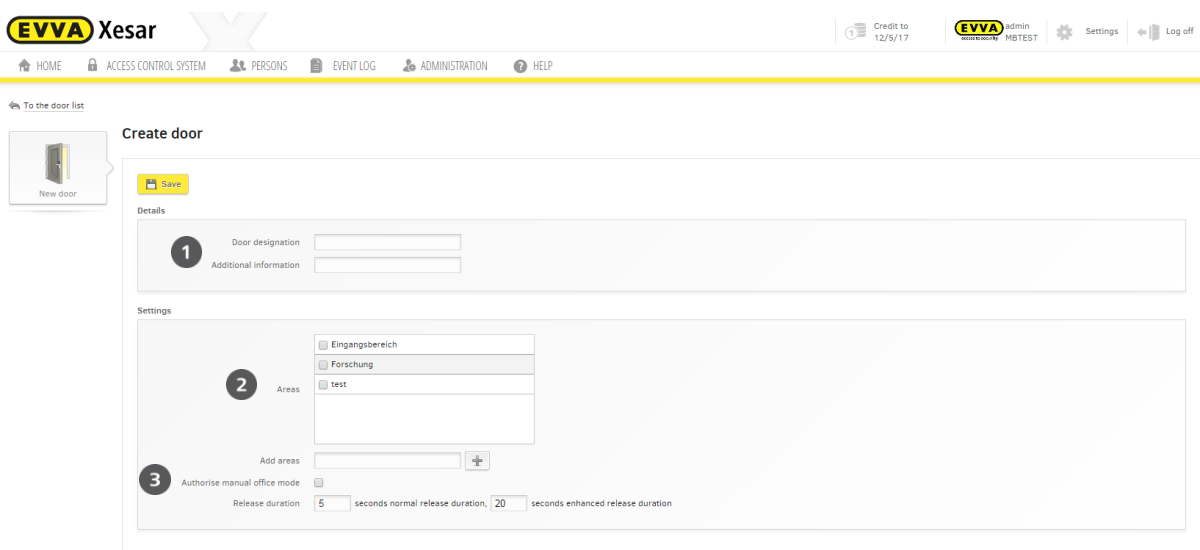

Figure 82: Creating doors
When you create doors it is important to enter a unique **Door designation** ❶ (mandatory field) to safeguard the doors in the software can be assigned to the doors within the facility, e.g. Main entrance. There is also the **Additional information** field ❷ (optional field) intended for additional door information, e.g. the room number (Figure 82: Creating doors).
Select the areas to which you would like to add doors in the **Areas** field ③ . You can also create additional areas in this section (Figure 82: Creating doors).